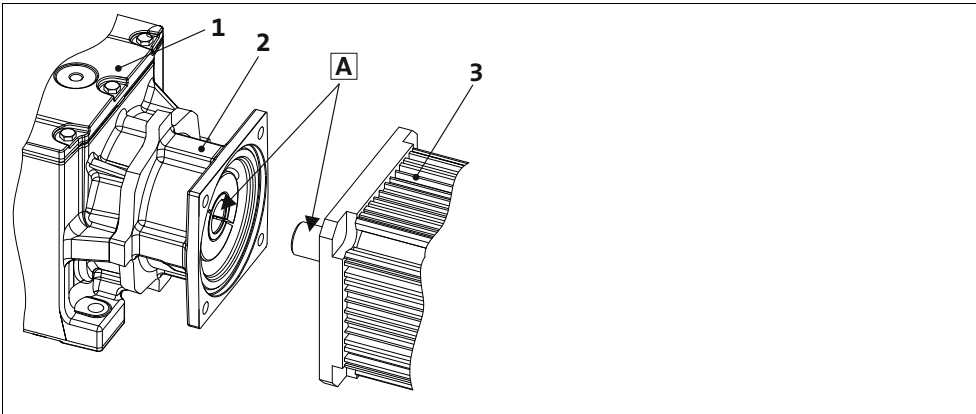

Fig. 5 Shaft surfaces
- Thoroughly clean and degrease hollow shaft bore and motor shaft journal, Fig. 5.